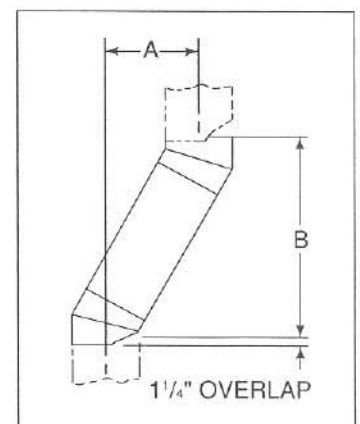

Figure 8
To clear any overhead obstructions, the chimney may be offset using a 15° Offset/Return, Catalog Number SL315, or a 30° Offset/Return, Catalog Number SL330. Figure 8 and Table 1 enable selection of the appropriate chimney components when using Offsets and Returns.
1. Determine amount of offset required to extend the chimney through a wall or around an obstacle. See Figure 8, dimension "A".